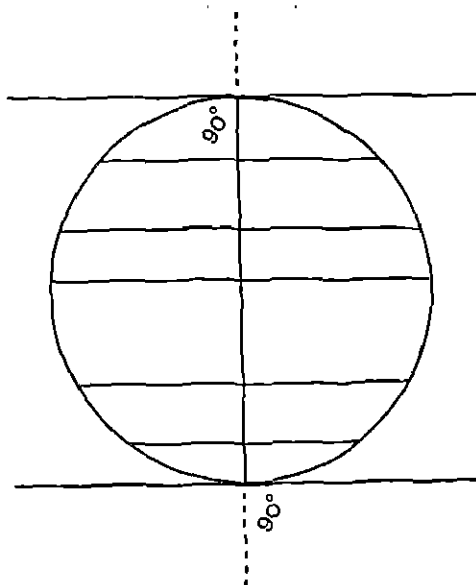

FIG. 37. PARALLEL CHORDS, DIAMETER AND TANGENTS
**I.** The children draw a circle and place in it a number of parallel chords. They mark the mid-points of the chords and notice that the line joining these middle points is a diameter at right angles to the chords, Fig. 37. This is linked up with Stage 24.